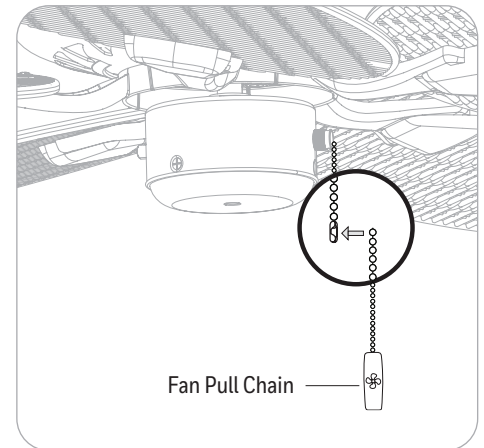

Figure 5.3
3. Attach the pull chain extension (Figure 5.3). Turn on power to fan at breaker box and the wall switch. Assembly is complete.